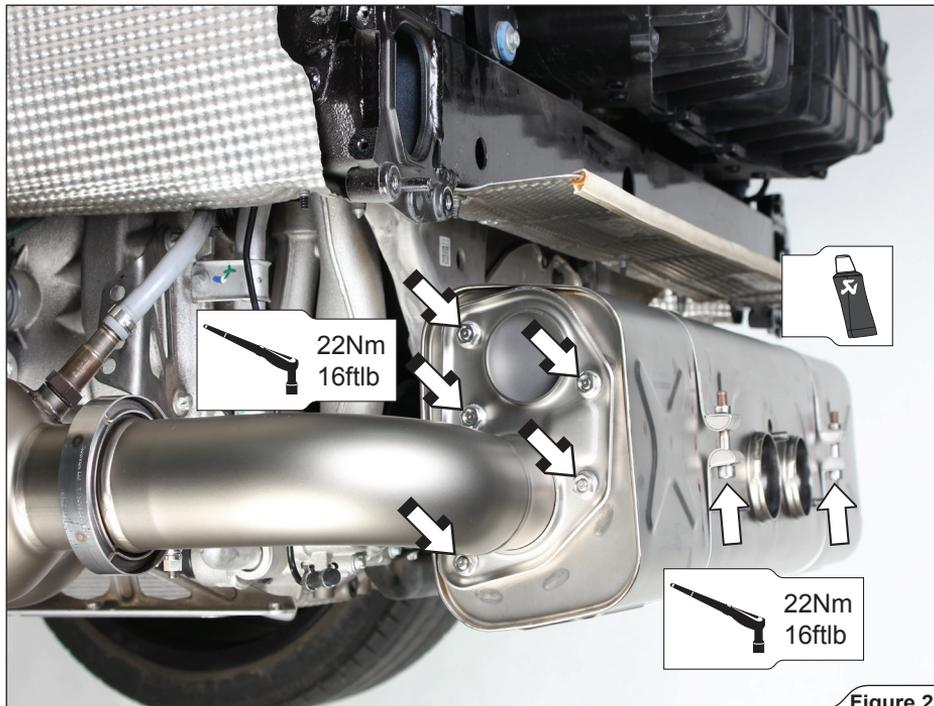

Figure 21
- Align and center Akrapovič muffler in respect to the vehicle and tighten the muffler clamps and flange nuts to the specified torque on both sides of the muffler (**Figure 21**).